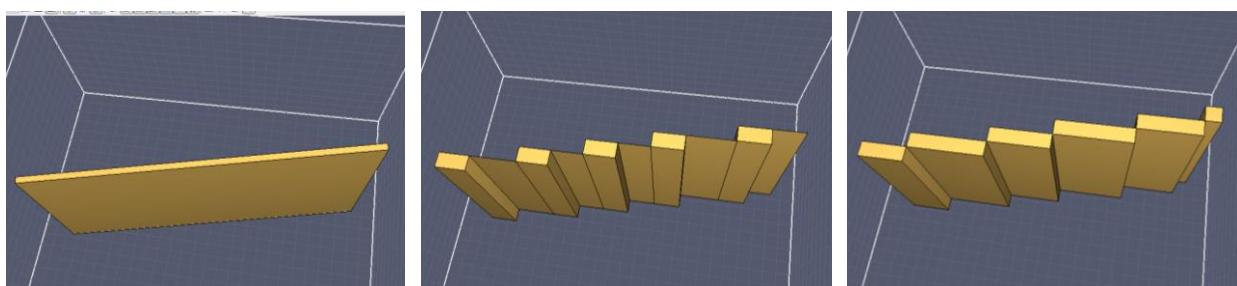

Figure 18.7. Effect of thickening on converted blocks
- **Allow thin obstructions [default]:** Allows objects to become thin as shown in Figure 18.7. This may be overridden for obstructions by turning on **Thicken** in the obstruction properties dialog.¹